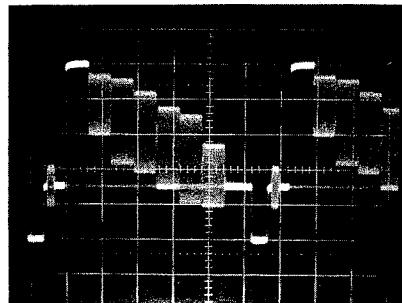

Fig. 26
- Adjust the signal on TP454 to 1.0 ± 0.05 Vp-p (when terminated with 75 ohm) or to 2.0 ± 0.1 Vp-p (when unterminated) with R337 in the luminance section of the PV01. (Fig. 26)